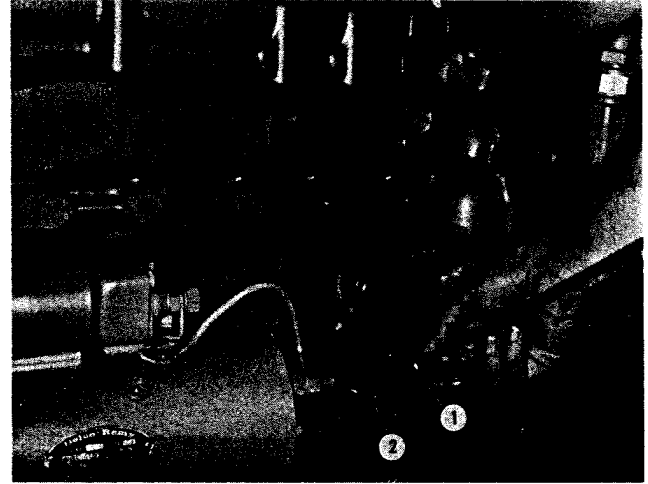

Fig. 1-3, (N12012). Checking engine oil level
A dipstick oil gauge is located on the side of the engine. Fig. 1-3. The dipstick has an "H" (high) (1) and "L" (low) (2) level mark to indicate lubricating oil supply. The dipstick must be kept with the oil pan, or engine, with which it was originally supplied. Cummins oil pans differ in capacity with different type installations and oil pan part numbers.